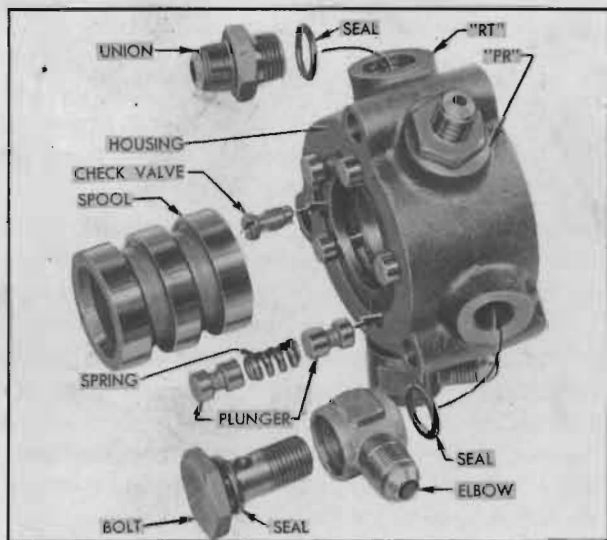

Figure 7-25—Hydraulic Valve Parts
13. Check the valve spool and centering plungers for possible sticking in valve housing, then carefully remove these parts and the centering springs. Remove check valve and all unions and elbows. See figure 7-25.
4. Install check valve in valve housing and tighten securely. Install valve spool. Install centering springs, then install all plungers with narrow lands outward. See figure 7-25.